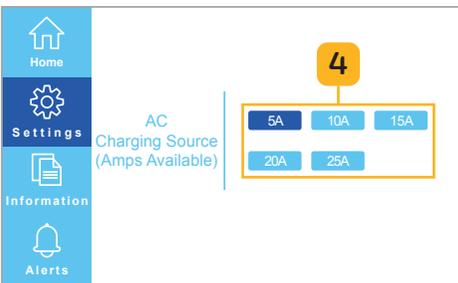

Fig. 6.13 Select maximum AC power
4. Select the available amperage of your **AC Charging Source** (Fig. 6.13). **Note:** AC Input will not exceed the rated amperage of the charging source (Ex. For a standard U.S. Wall Outlet, please select “15A.” For a 30A RV Outlet, you may select “25A.”)